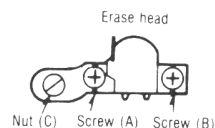

Fig. 2
- The serial number plate of this product is attached to the back chassis (shown in fig. 2).
1. Adjust nut (C) shown in fig. 2 so that the tape may not get curled or malformed by tape guide of the erase head.